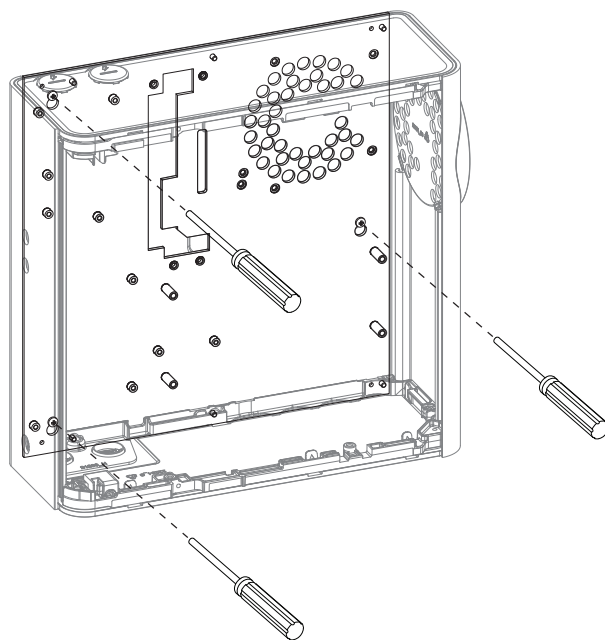

Figure 4-14: Locking screw
9. Insert an M4 screw at the small end of the detector's bottom-left keyhole, and tighten the other two screws (Figure 4-14).